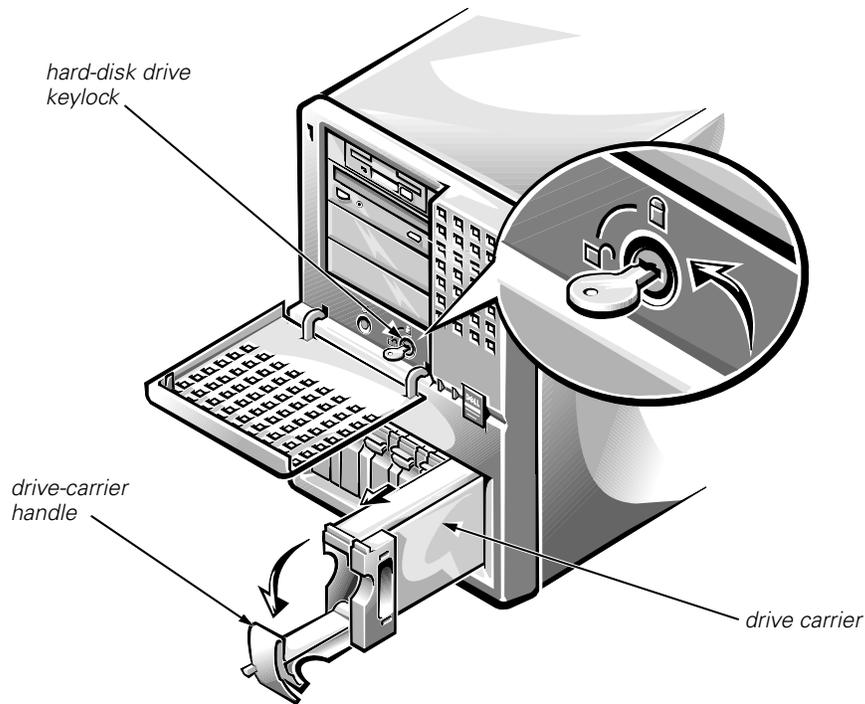

Figure 4-9. Hard-Disk Drive Removal
3. **Unlock the hard-disk drive keylock (see Figure 4-9).**